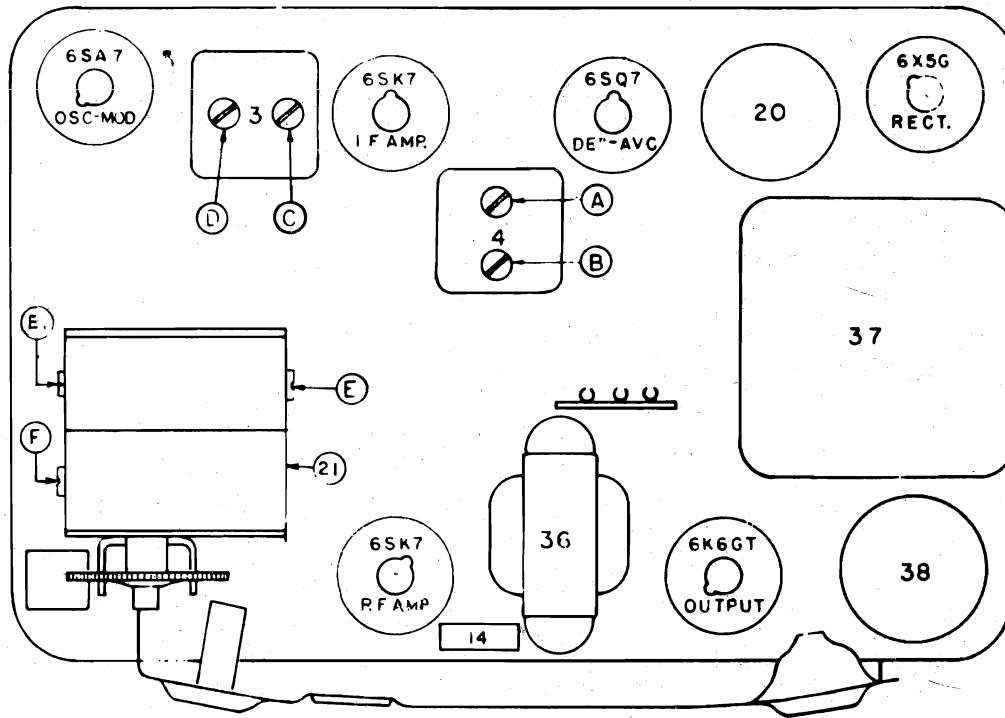

FIG. 3--PARTS LAYOUT--Top View
- (d) Adjust the R. F. trimmer "G" (Fig. 3) for maximum output.
- (e) Adjust the antenna trimmer "H" (Fig. 3) for maximum output.